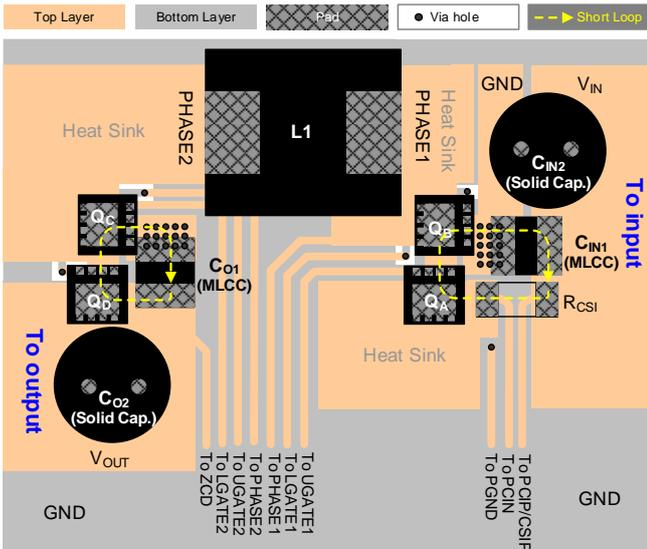

Figure 6. Recommended PCB Layout of the Power Stage
- ▶ Figure 6 is a recommended placement of the PWM Buck-Boost power-stage. Two critical loops “from  $C_{IN1} \rightarrow R_{CSI} \rightarrow Q_A \rightarrow Q_B$  to  $C_{IN1}$ ” and “from  $C_{O1} \rightarrow Q_D \rightarrow Q_C$  to  $C_{O1}$ ” must be as short as possible to minimize the switching noise at PCIP/CSIP, PCIN, PHASE1, PHASE2 and ZCD pins. The shorter paths also help to reduce radiated EMI. It is necessary to use an MLCC (10 $\mu$ F/50V, X5R/X7R) for the input capacitor ( $C_{IN1}$ ) and output capacitor ( $C_{O1}$ ). For reducing the input and output voltage ripples during heavy load operation, it is recommended to add more MLCCs or solid input and output capacitors. Moreover, to improve heat dissipation, one needs to increase the PCB areas for Drains of high-side and low-side MOSFETs.